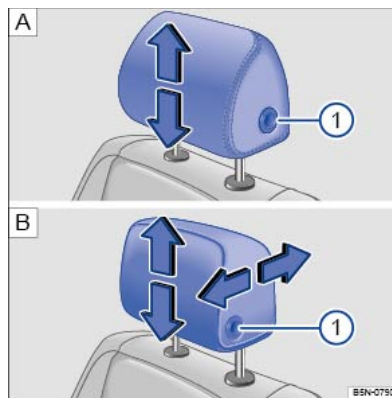
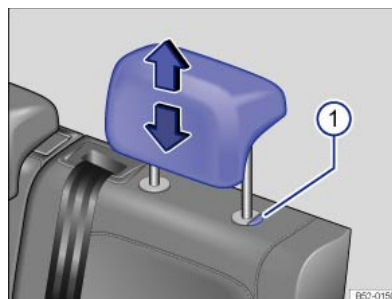

Fig. 88 Adjusting the front head restraints: without longitudinal adjustment, with longitudinal adjustment.
Fig. 89 Rear head restraint: adjusting.
- Press the button → Fig. 88  or → Fig. 89  if necessary and slide the head restraint up or down in the direction of the arrow → .
- Push the head restraint forwards in the direction of the arrow or press button → Fig. 88   and push it backwards.